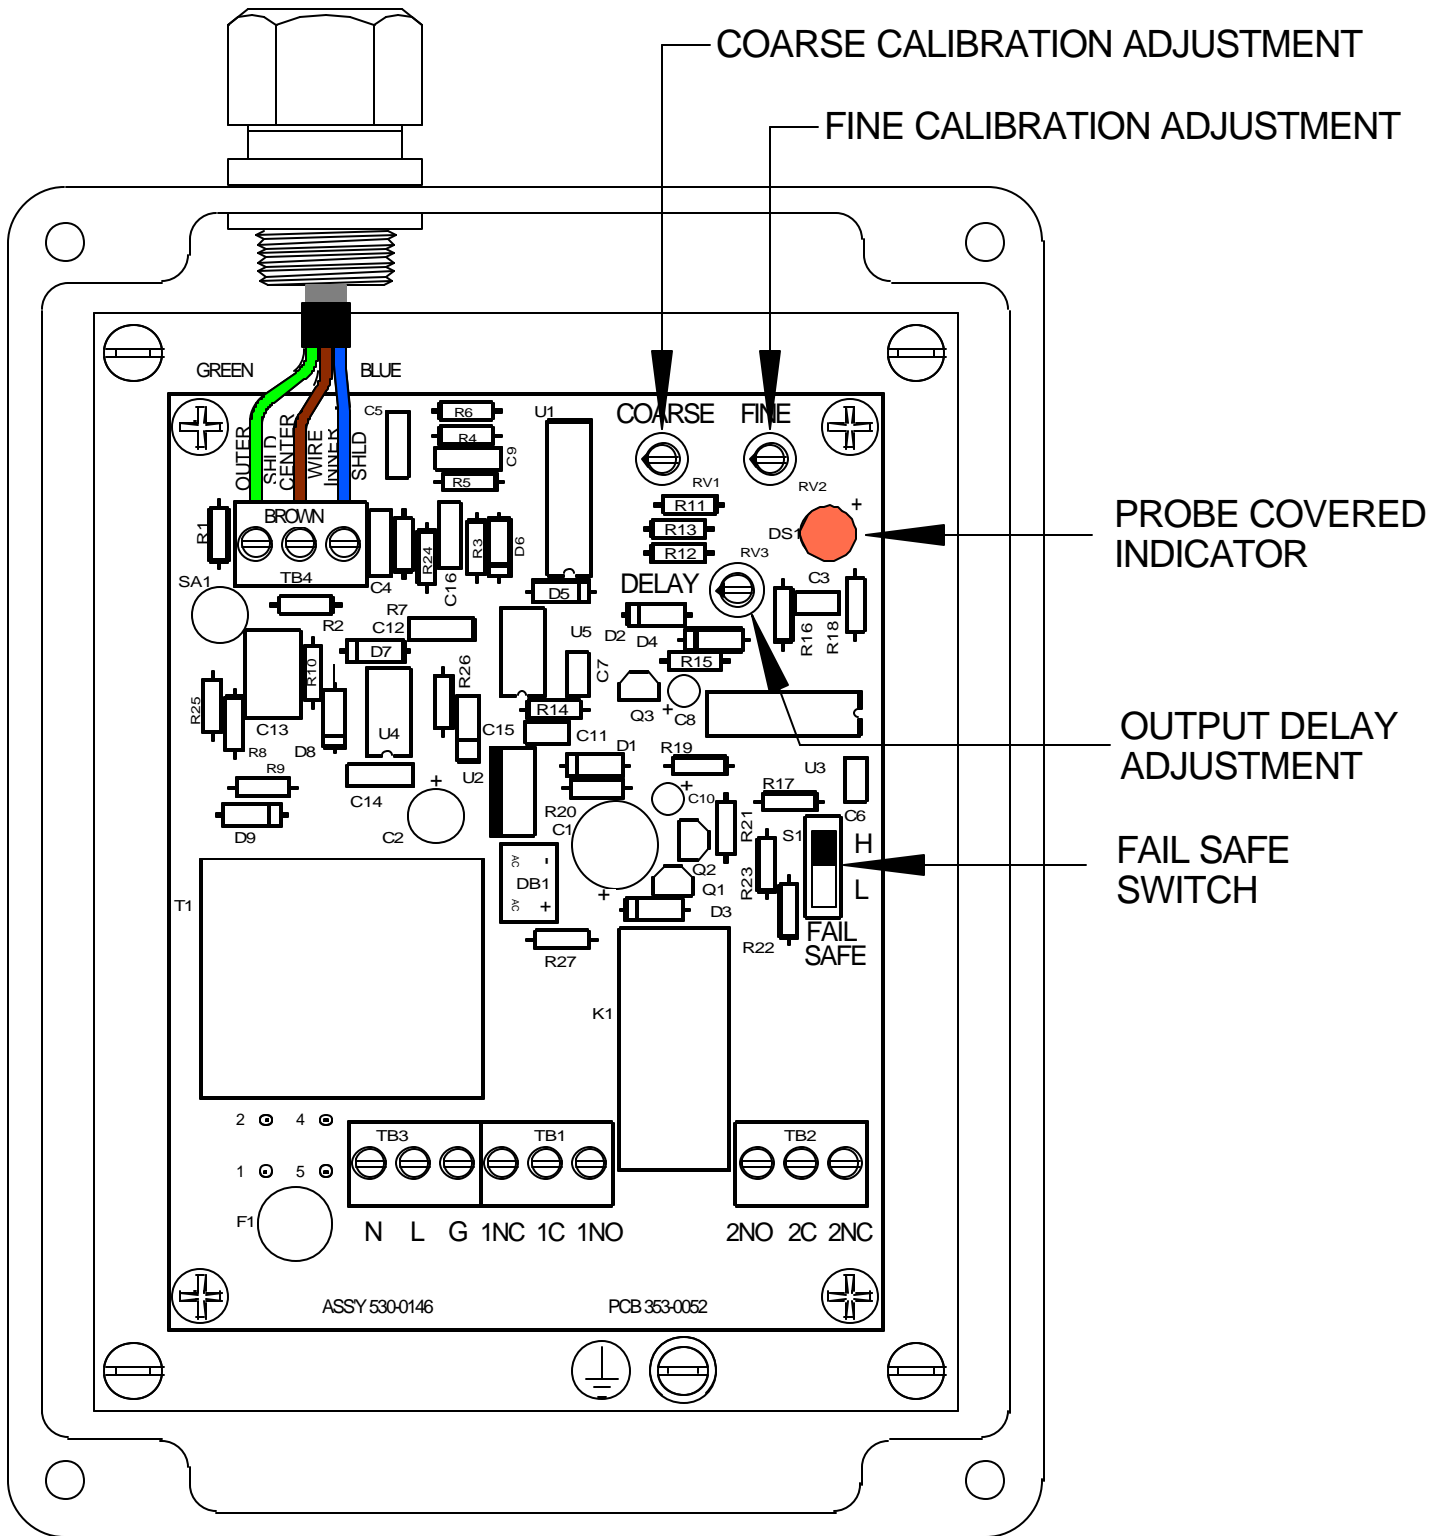

Figure 2.1
- FIGURE 2.1 10**
A Fail-Safe condition means that the relay contact positions are set up so that in the event of a power failure, the relay will be de-energized and the contacts will indicate a condition that is deemed safe for the application. (Refer to FIGURE 2.1 for the location of the Fail-Safe selection switch.)
The HTRC-20 Quick Set calibration feature uses two single turn potentiometers making calibration very simple. One potentiometer labeled COARSE is used to compensate for the capacitance of the empty vessel. The other potentiometer labeled FINE is used to set in the desired sensitivity. Refer to FIGURE 2.1 for the location of these potentiometers on the printed circuit board.
Minimum time delay is when the DELAY potentiometer is set fully counter-clockwise. (Refer to FIGURE 2.1 for the location of the DELAY potentiometer.) Maximum time delay is with the DELAY potentiometer set fully clockwise.